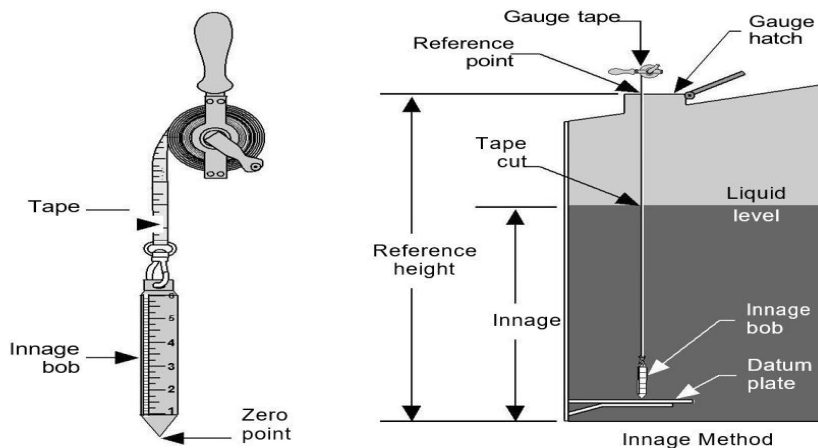

Figure 4.5. |
4. Take the opening gauge to the nearest 1/8 inch. Two consecutive readings must be the same before recording the opening gauge on the measurement ticket (see Figure 4.5).